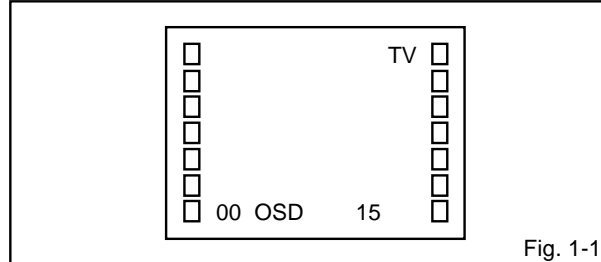

Fig. 1-1
**(Refer to Fig. 1-1.)**
Press the VOL. DOWN button on the set and the Channel button (9) on the remote control for more than 1 second to appear the adjustment mode on the screen as shown in Fig. 1-1.
3. Activate the adjustment mode display of Fig. 1-1 and press the channel button (02) on the remote control to select "RF. AGC".
3. Activate the adjustment mode display of Fig. 1-1 and press the channel button (01) on the remote control to select "CUT OFF".
4. Activate the adjustment mode display of Fig. 1-1 and press the channel button (13) on the remote control to select "R. BIAS".
3. Activate the adjustment mode display of Fig. 1-1 and press the channel button (04) on the remote control to select "H. POSI".
3. Activate the adjustment mode display of **Fig. 1-1** and press the channel button **(06)** on the remote control to select "H. SIZE".
2. Activate the adjustment mode display of **Fig. 1-1** and press the channel button **(05)** on the remote control to select "V. POSI".
2. Activate the adjustment mode display of **Fig. 1-1** and press the channel button **(07)** on the remote control to select "V. SIZE".
3. Activate the adjustment mode display of **Fig. 1-1** and press the channel button **(23)** on the remote control to select "PARABOLA".
3. Activate the adjustment mode display of **Fig. 1-1** and press the channel button **(24)** on the remote control to select "TRAPEZIU".
3. Activate the adjustment mode display of **Fig. 1-1** and press the channel button **(25)** on the remote control to select "COR TOP".
3. Activate the adjustment mode display of **Fig. 1-1** and press the channel button **(26)** on the remote control to select "COR BTM".
1. Activate the adjustment mode display of **Fig. 1-1**.